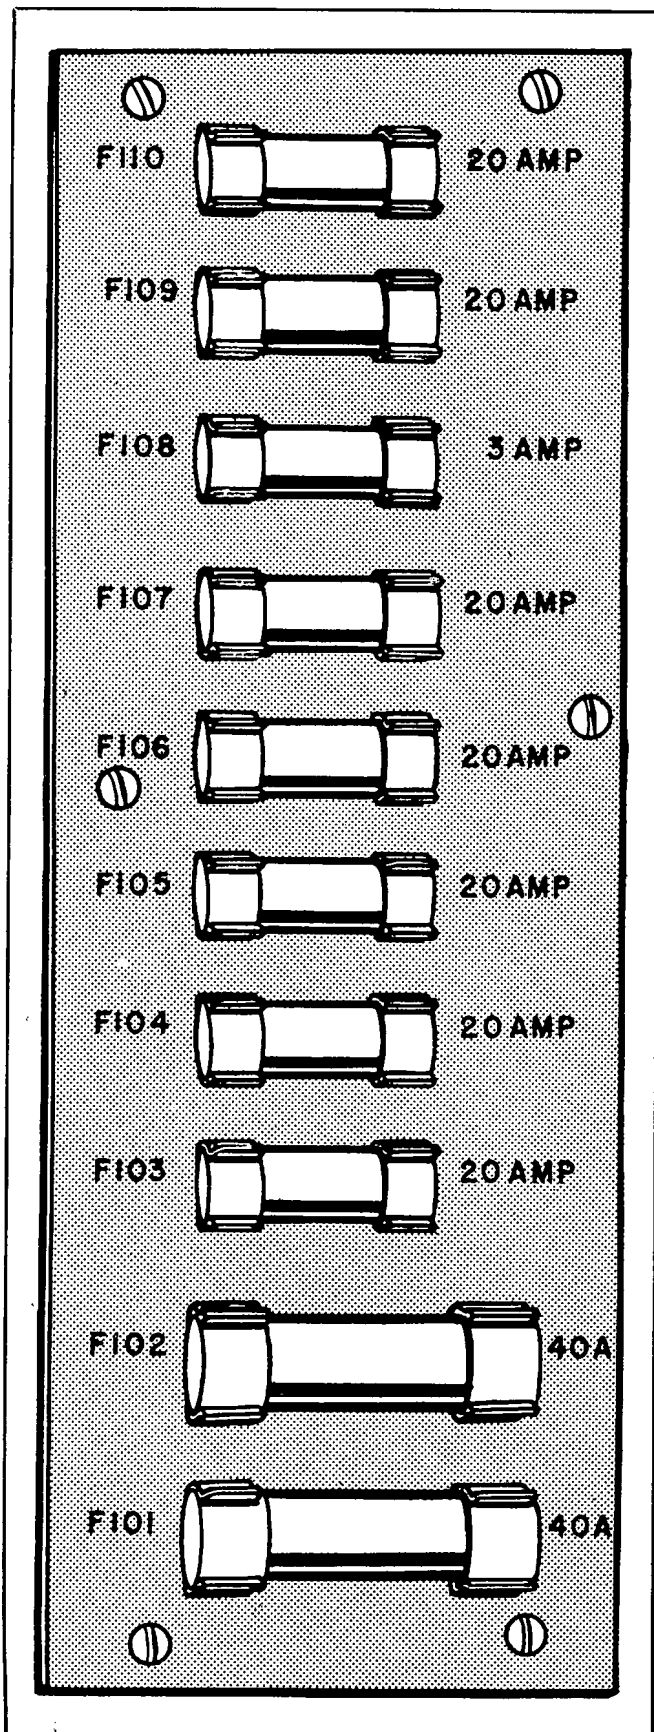

Figure 5-1. Transceiver Fuses
a. A blown fuse is indicated by the FUSE ALARM lamp directly above it. If a FUSE ALARM lamp is illuminated, the fuse beneath should be replaced. The fuses and the alarm lamps of the various components are shown in Figs. 5-1 to 5-12 inclusive. They are listed in Table 5-2. Symptoms are given for the fuses that have no fuse alarm lamps.